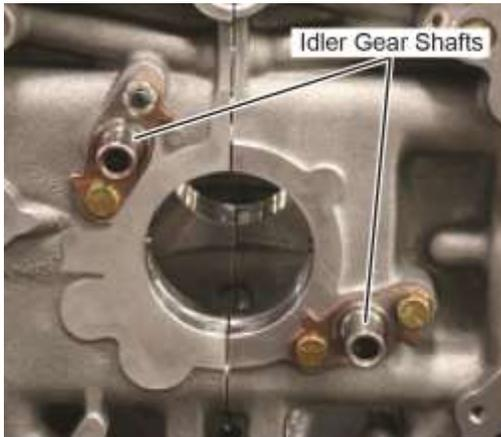

Figure 59
- A. Install the crankshaft idler gear shaft (for the left idler gear) in the crankcase with a nut and bolt (Figure 59). Torque the bolt to 17 ft.-lb. (23 Nm). Torque the nut to 12 ft.-lb. (16 Nm). Safety wire the nut and bolt as shown in Figure 60.
- B. Install the crankshaft idler gear shaft (for the right idler gear) in the crankcase with two bolts (Figure 59). Torque the bolts to 17 ft.-lb. (23 Nm). Safety wire the two bolts as shown in Figure 60.